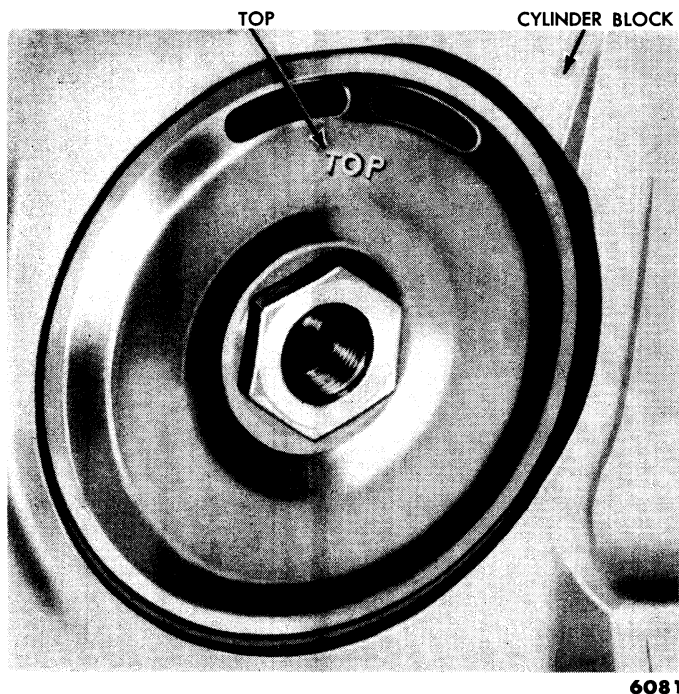

Fig. 29—Oil Filter Anti-Drain Back Diaphragm Position
(4) **INSTALLATION.** Check to see if the two elongated holes in the oil filter anti-drain back diaphragm are in the up position as shown in fig. 29. Clean the cylinder block filter recess, then install a new gasket. Place the filter assembly in position, and thread the center bolt into the adapter finger-tight. Rotate the filter assembly slightly, in each direction, to make sure the gasket is seated evenly. Tighten the center bolt to 20-25 foot-pounds torque.